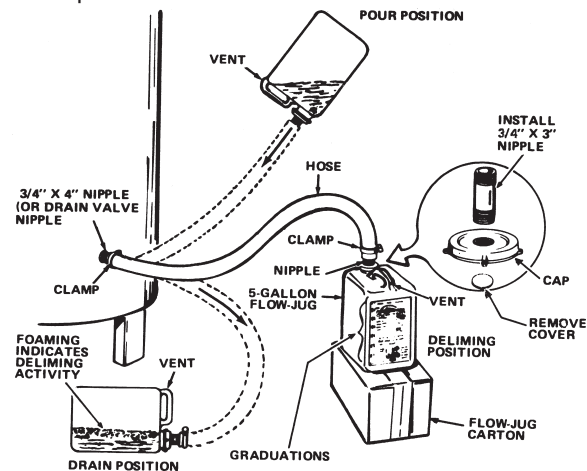

Figure 25. Flo-Jug Delimiting Method
2. Lift container to the "Pour" Position (see *Figure 25*), being careful to keep the vent in the handle above the liquid level and pour the UN•LIME into the heater.
4. Let UN•LIME remain in the heater for 5 minutes and then lower the container to the "Drain" Position. See *Figure 25*.